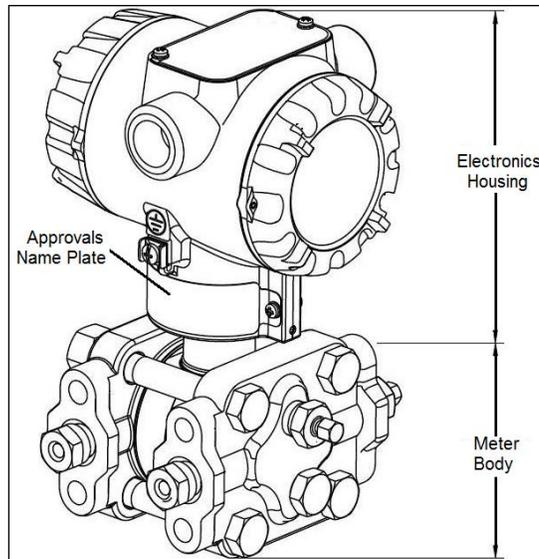
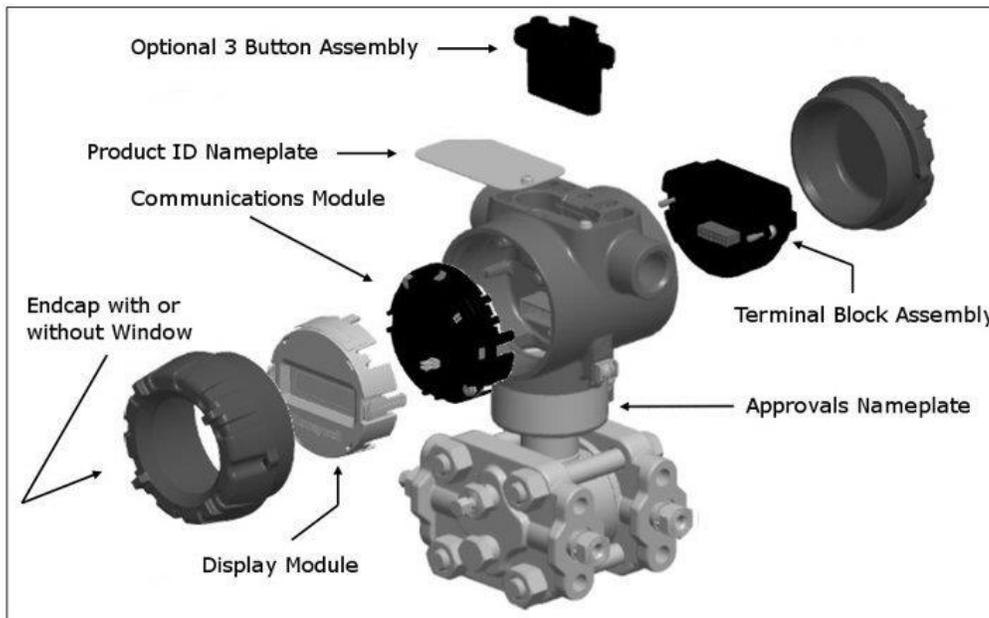
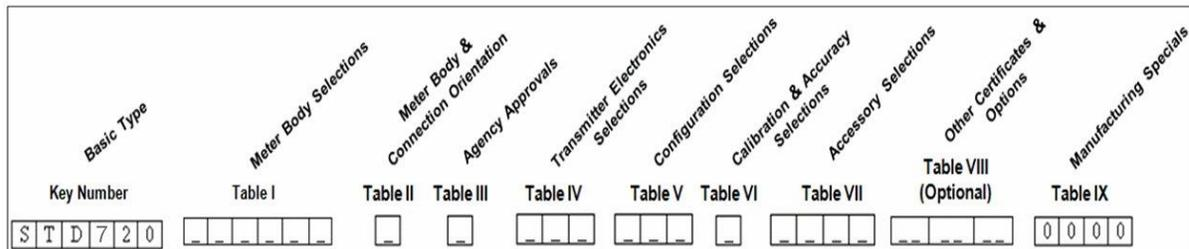

Figure 1 – ST 700 Standard Transmitter Major Assemblies
Figure 2 – ST 700 Standard Transmitter Electronics Housing Components
Figure 3 –ST 700 Standard Transmitter - Typical Name Plate
Look at the nameplate on top of the unit shown in Figure 3. Refer to the Model number
As shown in Figure 1, the ST 700 Standard is packaged in two major assemblies: the Electronics Housing and the Meter Body. The elements in the Electronic Housing respond to setup commands and execute the software and protocol for the different pressure measurement types. Figure 2 shows the assemblies in the Electronics Housing with available options.
The Transmitter nameplate mounted on the bottom of the electronics housing (see Figure 1) lists its model number, physical configuration, electronics options, accessories, certifications, and manufacturing specialties. Figure 3 is an example of a typical Gauge Pressure (GP) or Atmospheric Pressure (AP) Transmitter name plate. The model number format consists of a Key Number with several table selections. The Differential Pressure (DP), Absolute Pressure (AP), and Gauge Pressure (GP) name plates are essentially the same. The DP model provides one additional entry (7 vs. 6) in the Meter Body Selections (Table I) to accommodate the static pressure rating.
An “approvals” name plate is located on the bottom of the Electronics Assembly; see Figure 1 for exact location. The approvals name plate contains information and service marks that disclose the Transmitter compliance information.